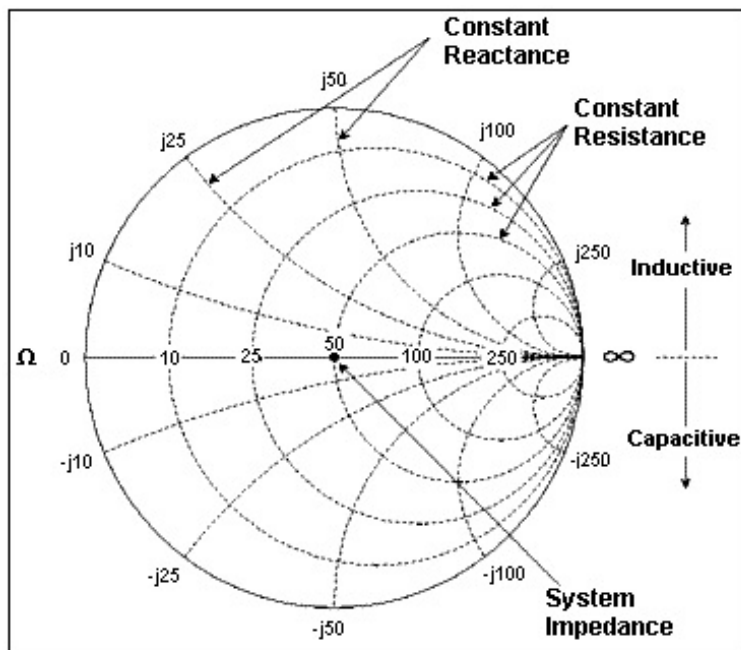

Figure 1: Smith Chart
If we look at the Figure 1, we will notice that on the horizontal axis, which displays the Real Component, indicates a Short Circuit (SC) on the left and an Open Circuit (OC) at the right. Above and below are the Imaginary Component.